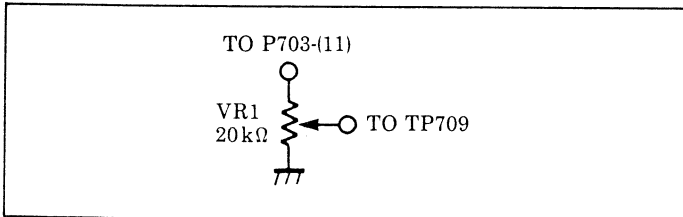

Fig. 19
3. Connect the JIG to both points P703-(11) and TP709 as shown in Fig. 19 and adjust VR1 so that the noise of waveform on the monitor scope becomes minimum.
5. Connect the JIG to both points P703-(11) and TP709 as shown in Fig. 19 and adjust VR1 so that the VIF waveform becomes maximum, and adjust the VIF sweep output so that the VIF waveform becomes 1.0V_{p-p}.
9. Adjust T701-(E) so that the 40.4MHz trap becomes minimum.
10. Adjust T701-(C) so that the 31.9MHz trap becomes minimum.
11. Adjust the Tuner converter coil and T701-(A), (B), (D), (F) so that the VIF waveform becomes as follows.